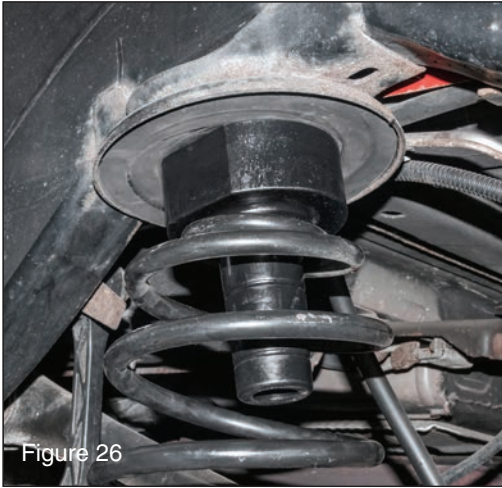

Figure 26
*Install coil spring as shown, rear springs are not indexed so alignment is not critical. (FIG 26).*